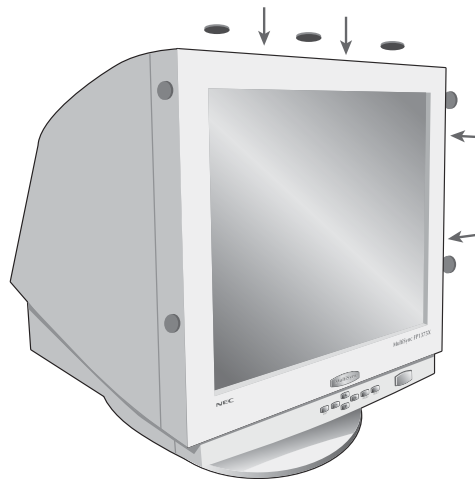

Figure 1
5. Remove adhesive covering on the Velcro tabs of the SpectraView hood and attach the hood to the front top and sides of the monitor bezel (Figure 1).